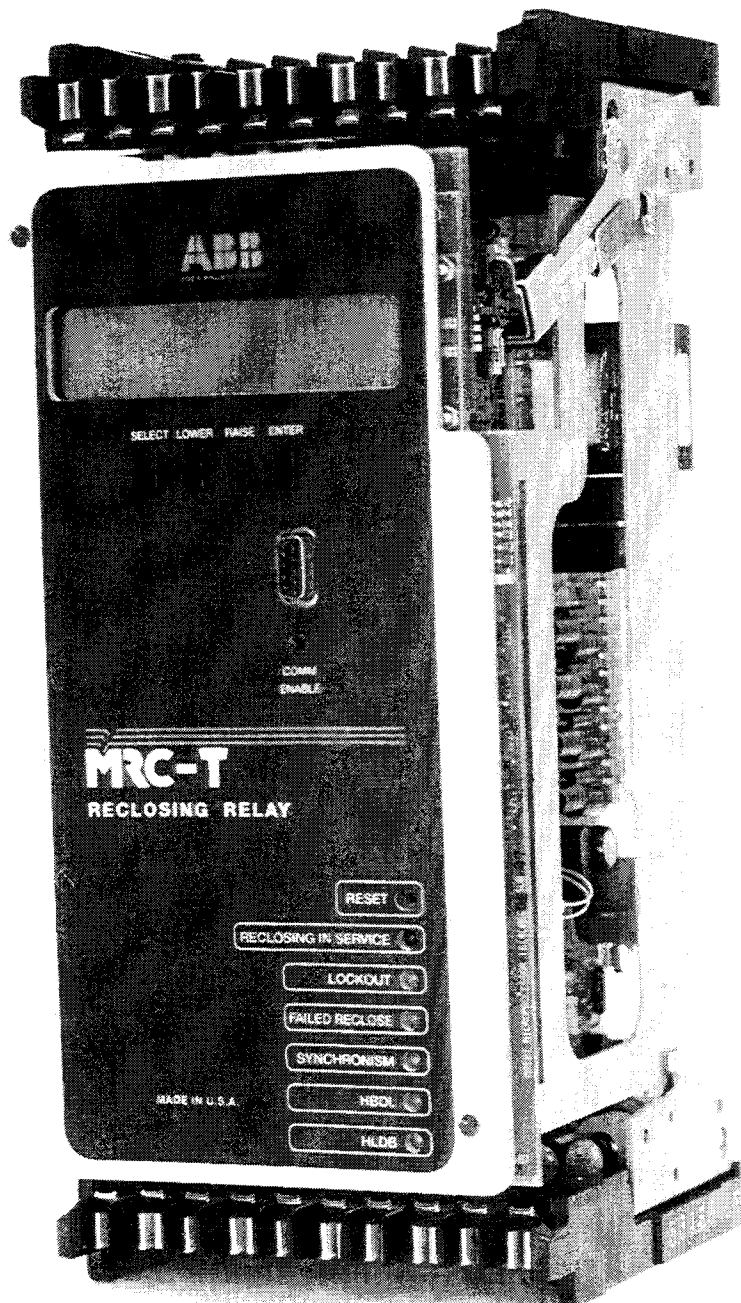

Figure 1-7. MRC-T Inner Chassis
- The inner chassis (Figure 1-7) consists of a frame, 2 switchjaws and the following modules: